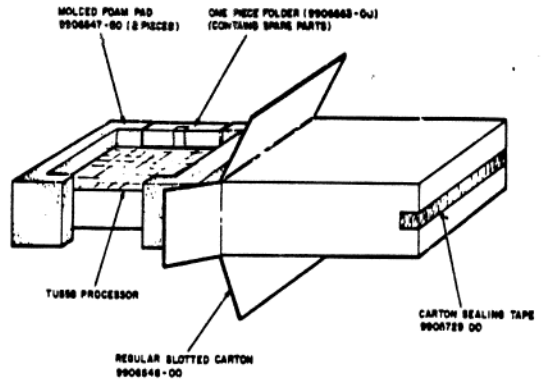

FIGURE 3
3.	Place one Molded Foam Pad (9906547-00) on the end of the TUS58-FA and place in the Regular Slotted Carton so that the foam goes to the bottom of the Regular Slotted Carton. See Figure 3.
4.	Wrap separately in one (1) foot pieces of Bubblewrap (9906200-00): One (1) Lalm TUS58, LA120 Hanger (7423504-00) and one (1) Lalm TUS58 Clamp (7423303-00). In a two (2) foot piece of Bubblewrap, wrap a Lalm Cable Assy (7017362-00).
5.	Arrange the wrapped parts from step 4 along with two (2) Cartridge Tapes (TUS8K) and a Hardware Bag containing three (3) Pan Head Screws 10-32 x .82 LG (9908008-01), three (3) Lock Washer No. 10 (9907906-00) and three (3) No. 10 Flat Washer (9906664-00) into the One Piece Folder (9906663-00) and seal using a 14 inch strip of Carton Sealing Tape.
6.	Place the One Piece Folder containing the additional parts into the Regular Slotted Carton as shown in Figure 3.
7.	Place the remaining Molded Foam Pad over the TUS58-FA and close the Regular Slotted Carton and seal using one (1) 21 inch strip of Carton Sealing Tape.
3.	Place one Molded Foam Pad (9906547-00) on the end of the TUS8L and place in the Regular Slotted Carton so that the foam goes to the bottom of the Regular Slotted Carton. See Figure 3.
4.	Wrap separately in one (1) foot pieces of Bubblewrap (9906200-00): One (1) Lalm TUS8L, LA120 Hanger (7423504-00) and one (1) Lalm TUS8L Clamp (7423303-00). In a two (2) foot piece of Bubblewrap, wrap a Lalm Cable Assy (7017362-00).
7.	Place the remaining Molded Foam Pad over the TUS8L and close the Regular Slotted Carton and seal using one (1) 21 inch strip of Carton Sealing Tape.